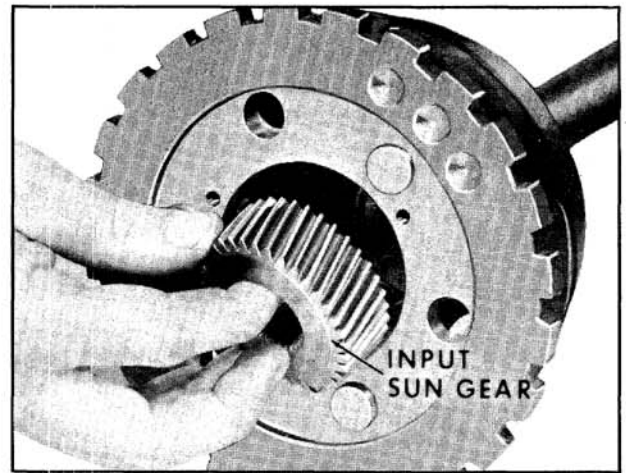

Fig. 6-458 Removing Input Sun Gear
6. Remove input sun gear. (Fig. 6-458)